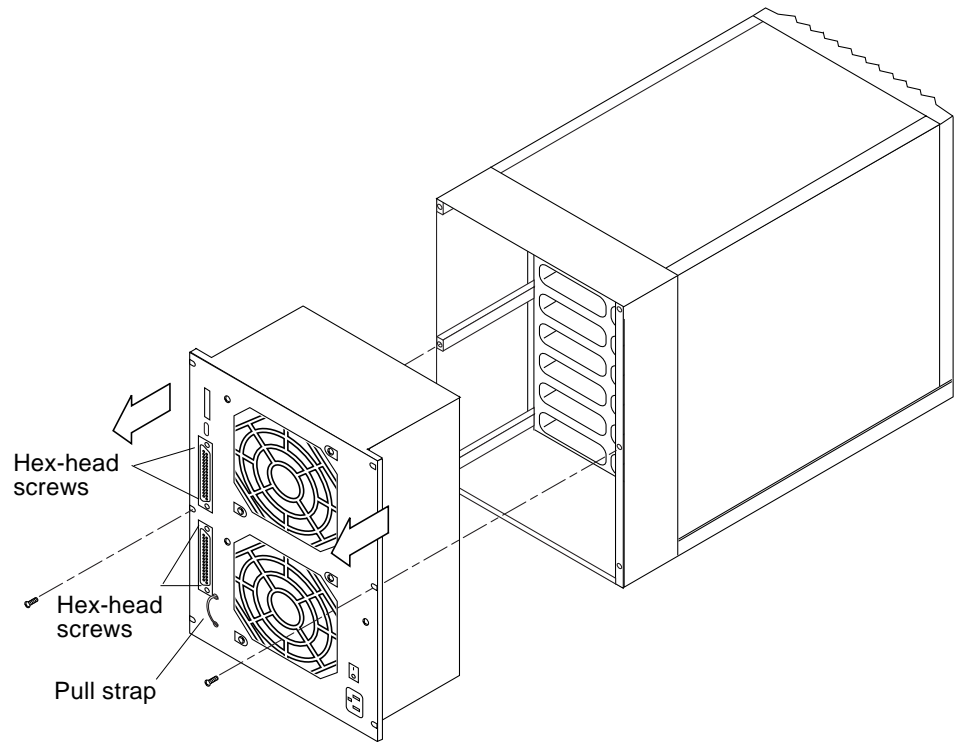

FIGURE 6-2 Removing and Replacing the Power Supply
4. Remove the two Phillips screws that secure the power supply to the unit (FIGURE 6-2).
5. Remove the four hex-head screws at the SCSI connectors (FIGURE 6-2).
- 6. Carefully pull the power supply out from the unit using the pull strap and set it aside (FIGURE 6-2).**
3. **Replace the two Phillips screws that attach the power supply to the unit (FIGURE 6-2).**
4. **Insert and secure the four hex-head screws at the SCSI connectors (FIGURE 6-2).**